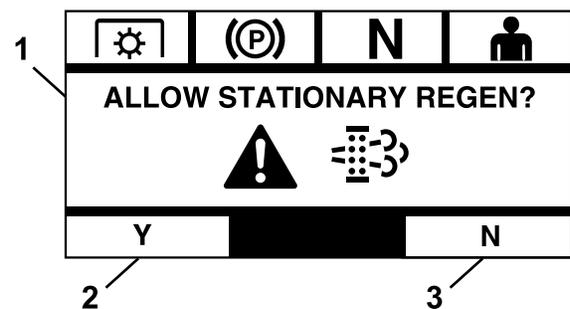

Figure 13
- If “Yes” is chosen, the module will prompt the operator to start the regen process (reference Figure 13).